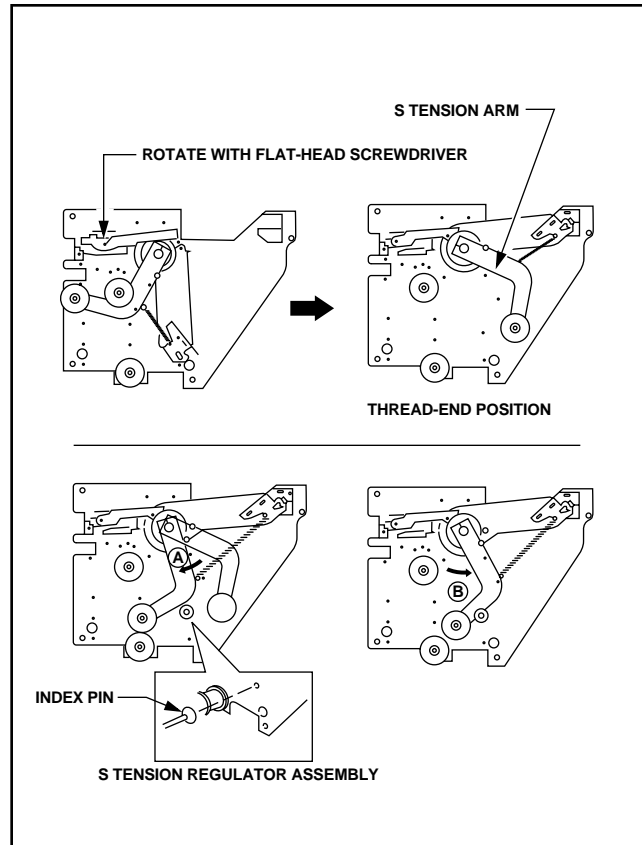

Figure 9
- Rotate the shaft of the S tension regulator arm with a flat-head screwdriver and manually move the S tension regulator arm to the thread-end position. (See Figure 9.)